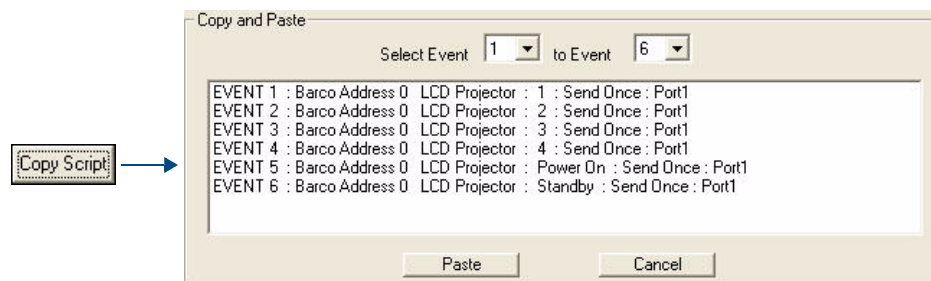

FIG. 109 Copy and Paste window
1. Click on the **Copy Script** button in the Command Bar to invoke the *Copy and Paste* window, displaying the current button script (FIG. 109):